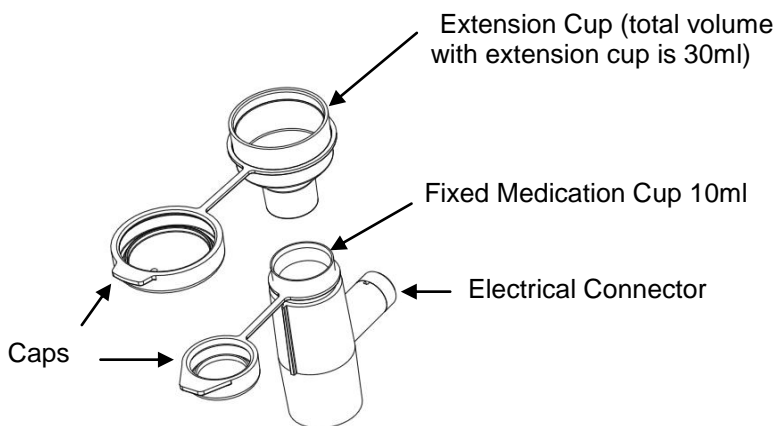

*Figure 1: Flexineb™ Nebuliser System*
- Check that the system is assembled, Fig. 1